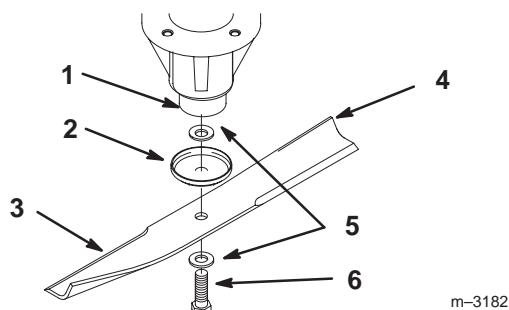
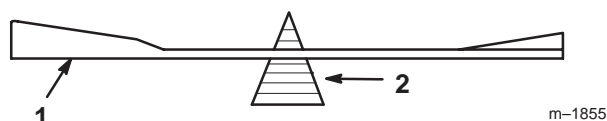

Figure 25
Figure 27
Hold the blade end using a rag or thickly-padded glove. Remove the blade bolt, washer and blade from the spindle shaft (Fig. 25).
2. Check the balance of the blade by putting it on a blade balancer (Fig. 27). If the blade stays in a horizontal position, the blade is balanced and can be used. If the blade is not balanced, file some metal off the end of the sail area only (Fig. 25). Repeat this procedure until the blade is balanced.
1. Install a washer, spindle cover and blade onto the spindle shaft (Fig. 25).
2. Install the washer and blade bolt (Fig. 25). Torque the blade bolt to 85–110 ft-lb (115–140 N•m).